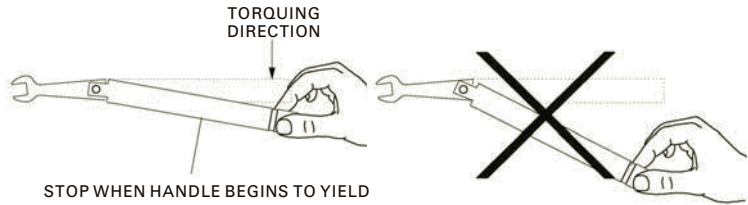

Figure 3-4 Using the Torque Wrench
- 4 Hold the torque wrench lightly, at the end of the handle only (beyond the groove). See Figure 3-4.
- 5 Apply downward force perpendicular to the wrench handle. See Figure 3-4. This applies torque to the connection through the wrench.
- 6 Tighten the connection just to the torque wrench break point. The wrench handle gives way at its internal pivot point. See Figure 3-4. Do not tighten the connection further.